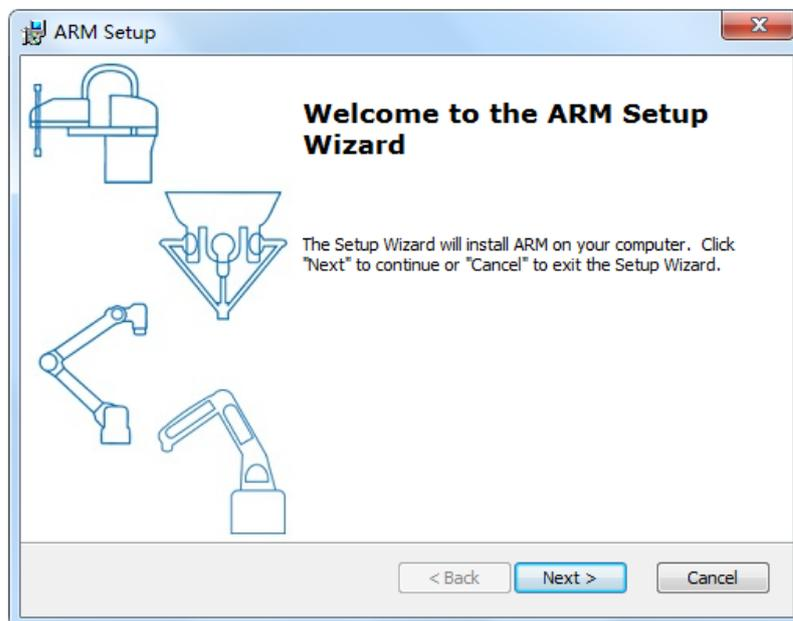

Figure 2-2 Start Setup
Step 2 Double-click the left button to install the software, as shown in Figure 2-2.